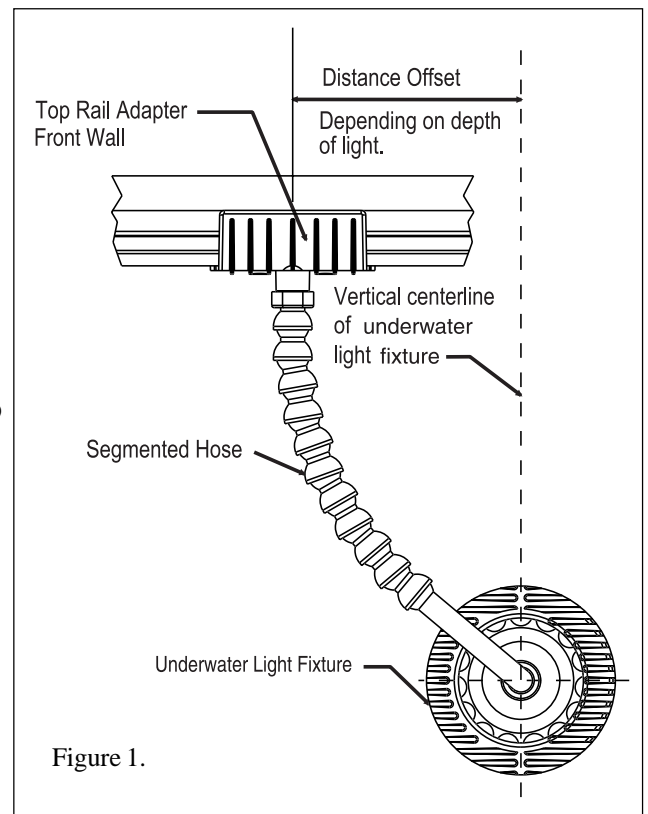

Figure 1.
1. Select the location for the top rail adapter. Place the top rail adapter to either side of the vertical center line of the light, allowing the adapter lens to be easily positioned directly in front of the center of the above ground light lens; see Figure 1.